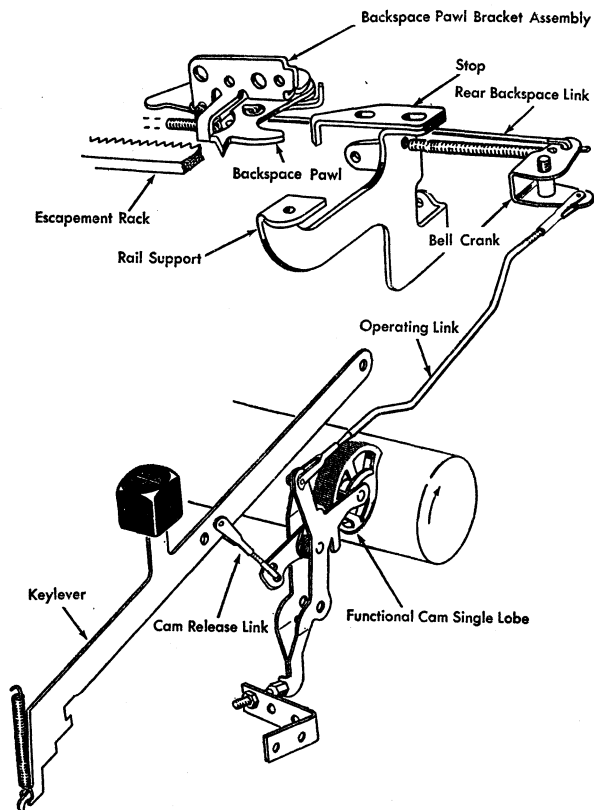

Figure 57. Backspace Mechanism
7. **BACKSPACE OPERATING LINK.** Adjust this so that the backspace pawl contacts its stop when there is approximately 1/4" travel left on the circumference of the cam (Figure 57).